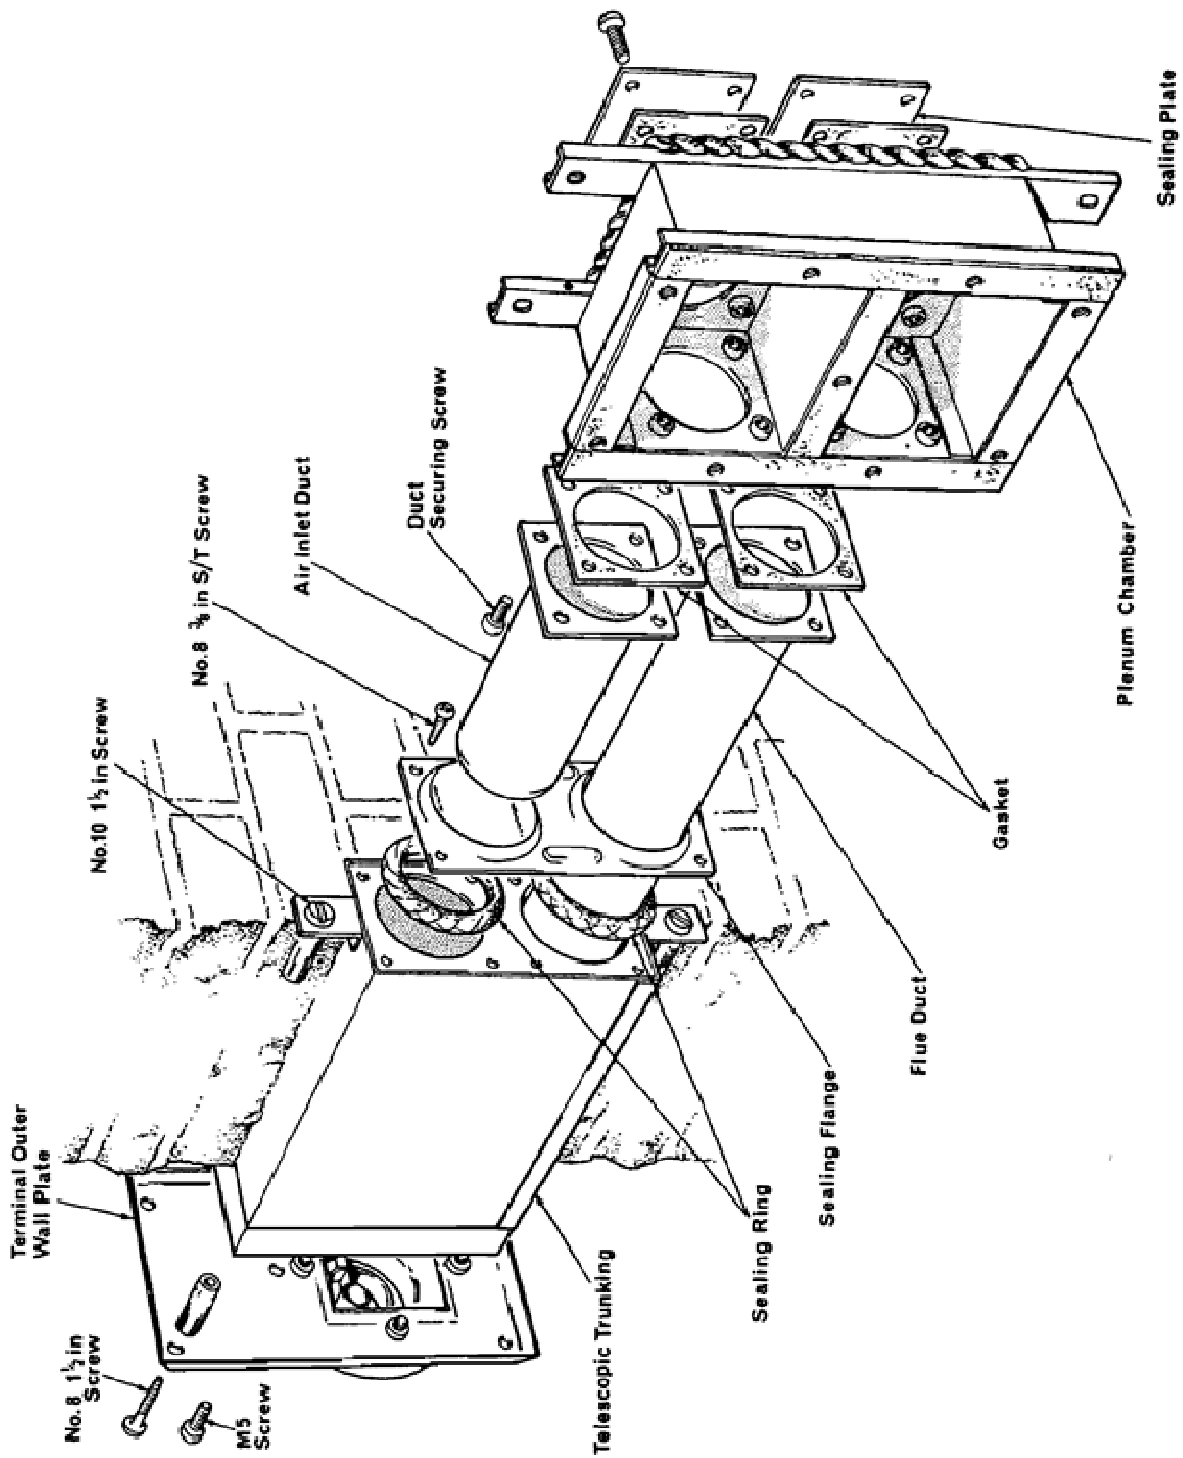

Fig. 7 ARRANGEMENT OF NETAHEAT 16/22 DUCTS
B. Potterton Netaheat 16 - 22 only – See Fig. 7.
- (1) The plenum chamber has two connections for the fresh air and flue ducts, one to one side and the other to the rear. One of these connections is blanked off with two sealing plates and gaskets and depending on the direction the ducts are to be connected to the boiler, these should be re-positioned by the installer if necessary. The single side connection can be used either for a left or right-hand duct arrangement, simply by rotating the plenum chamber to the required position. With a rear outlet, the smaller opening in the plenum chamber (air duct) must be positioned uppermost.
- (2) Fit the inlet and outlet duct assembly to the plenum chamber using the eight screws (Accessories Card Item C) and interposing the two gaskets. Ensure that the short air duct is positioned uppermost.
- (3) Temporarily secure the plenum chamber to the wall using the four 2 in. No. 12 screws, cup and flat washers (Accessories Card Item B), positioning the flue and fresh air ducts through the wall.
- (4) Mark off the lower flue duct at a point where it protrudes 32mm (1.3 in.) from the outside wall of the building.
- (5) The upper air duct is already sized to suit wall thicknesses between 230mm and 380mm (9 to 15in.) and will only need shortening, if the wall is less than 230mm (9 in.) thick. In this instance, cut off the nozzle end of the upper duct so that not less than 25mm (1 in.) and not more than 50mm (2 in.) protrudes inside the wall.
- (6) Remove the plenum chamber, then cut the duct(s) to size, removing all burrs.
- (7) Fit the telescopic trunking inside the wall and secure it to the inside face of the wall with two 1½ in. No. 10 screws, washers and Rawlplugs (Accessories Card Item D).